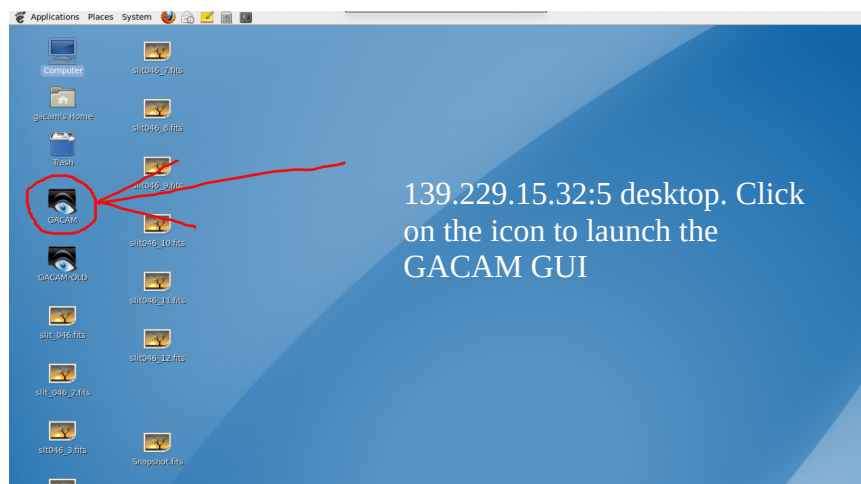

Figure 2: The GACAM computer desktop after launching the VNC connection. Click on the GACAM icon to start the camera software.
1. To access the GACAM GUI (Fig.2), vnc to: 139.229.15.30:5 and type the password provided by your Goodman Support Scientist or the Telescope Operator. Double-click on the icon on the left as shown in Figure 2. The white window will show the camera ID 02-2110A-07072 if GACAM is powered and the connection to the Prosilica camera is established (Fig. 3, left).